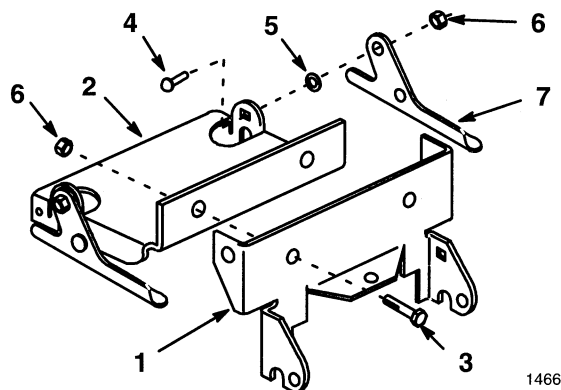

Figure 6
3. Assemble rear mounting plate and blade bracket with bolts (heads toward the rear) and lock nuts through holes in vertical plates (Fig. 6).
4. For blade use latch levers must be installed onto the blade bracket (Fig. 6). If necessary remove latch levers from rear mounting plate and move to the blade bracket. Secure with previously removed hardware (Fig. 6).